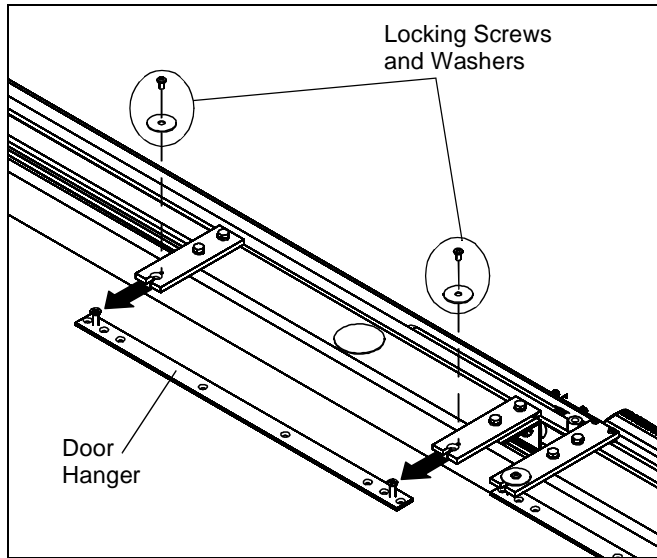

Figure 3
1. Remove door hanger from mechanism by removing locking screws and washers. (See Figure 3)